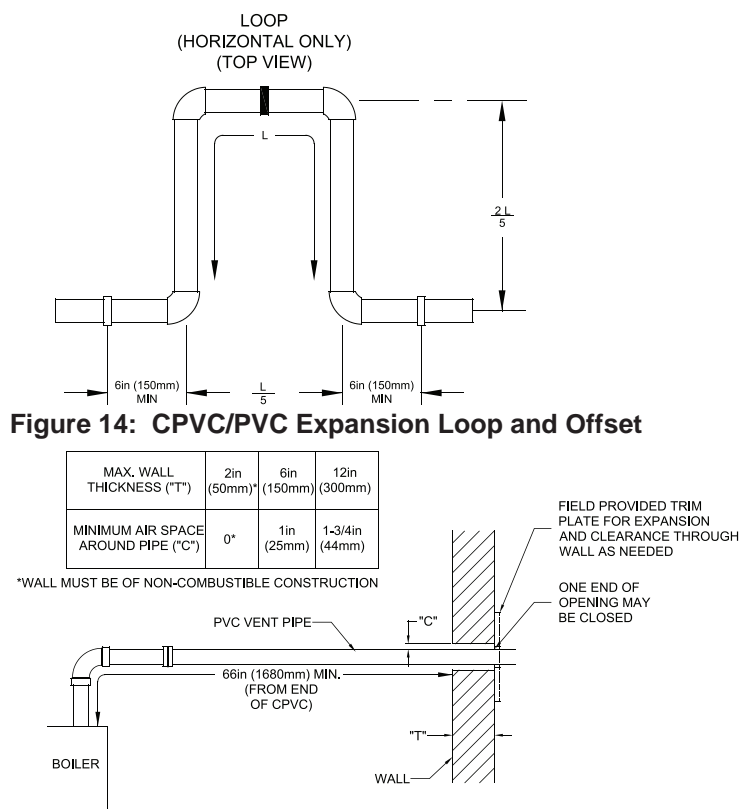

Figure 15: Wall Penetration Clearances for PVC Vent Pipe
- PVC vent pipe may not be used to penetrate combustible or non-combustible walls unless all following three conditions are met simultaneously (see Figure 15):
- An air space of at least of that shown in Figure 15 is maintained around outside of the vent pipe to provide air circulation
- Install contractor provided optional trim plate on wall outside surface to cover wall opening (see Figure 15).